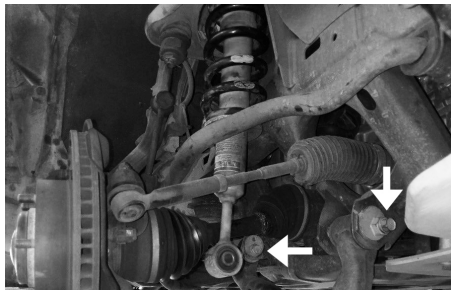

Fig. 3: Right side shown
3c. Draw a marker line on each side of the (2) lower control arm alignment cam bolts to reference alignment position. (Fig 3)
3d. Loosen alignment fasteners on both sides of lower control arm (a bolt on the front of the arm and a nut on the rear) - DO NOT COMPLETELY REMOVE THE FASTENERS. (OE Torque: 100 ft-lbs) (Fig 3)